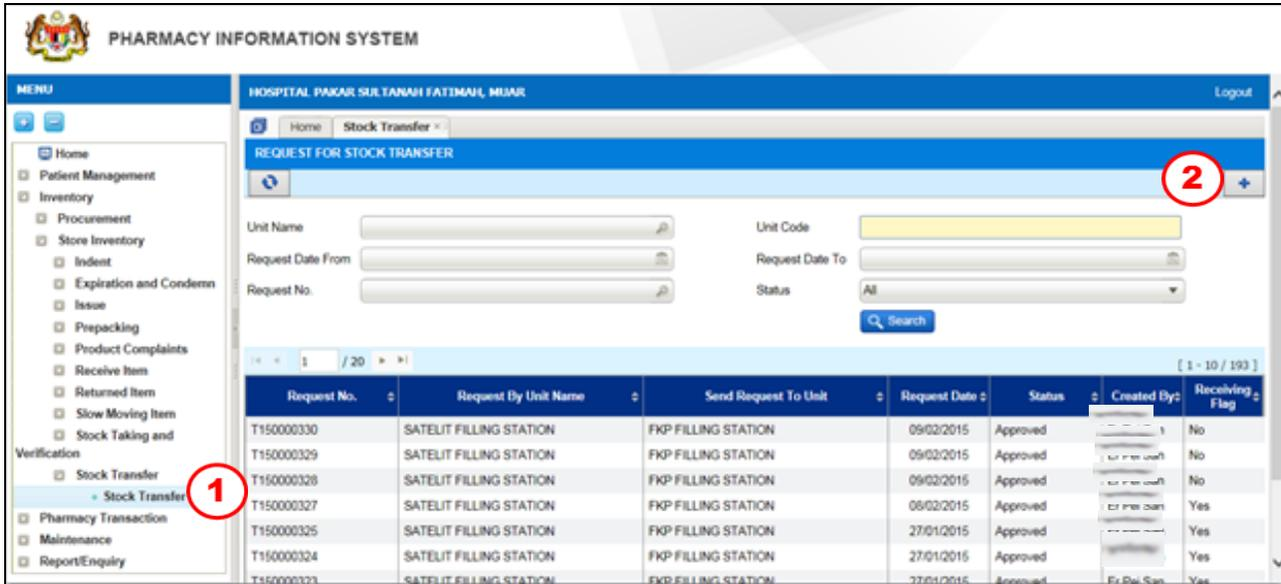

Figure 3.2-1 New Stock Transfer
Click on 'Store Inventory' Menu and follow by 'Stock Transfer' (refer Figure 3.2-1)
- It is allowed to enter **Unit Name** and/or **Unit Code** at searching criteria as per Figure 3.2.1. Then click the  button.
- It is allowed to enter **Drug/Non Drug Name** and/or **Drug/Non Drug Code** at searching criteria as per Figure 3.2.1. Then click the  button.